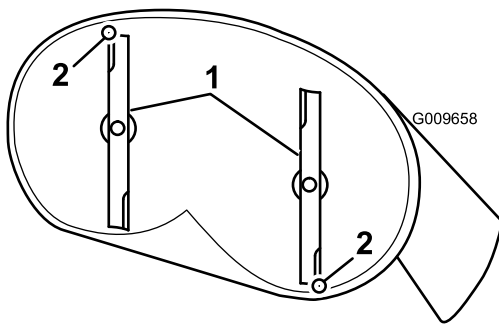
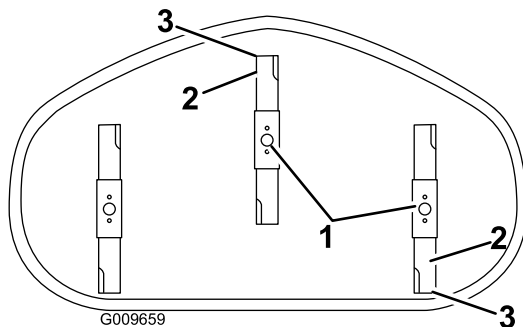

Figure 69
Figure 70
4. Carefully rotate the blades so they are facing front to rear (Figure 69 and Figure 70).
5. Measure from the tip of the front blade to the flat surface, and the tip of the rear blade to the flat surface (Figure 69 and Figure 70).
to 5/16 inch) lower than the rear blade tip (Figure 69 and Figure 70).
- A. Loosen the adjustment nut on the left adjusting rod (Figure 70).